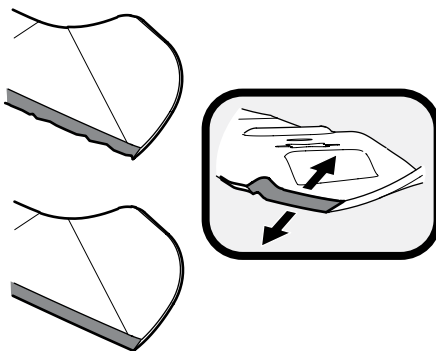

Figure 4-14
4. To properly sharpen the cutting blades, remove equal amounts of metal from both ends of the blades along the cutting edges, parallel to the trailing edge, at a 25° to 30° angle. Always grind each cutting blade edge equally to maintain proper blade balance. See Figure 4-14.